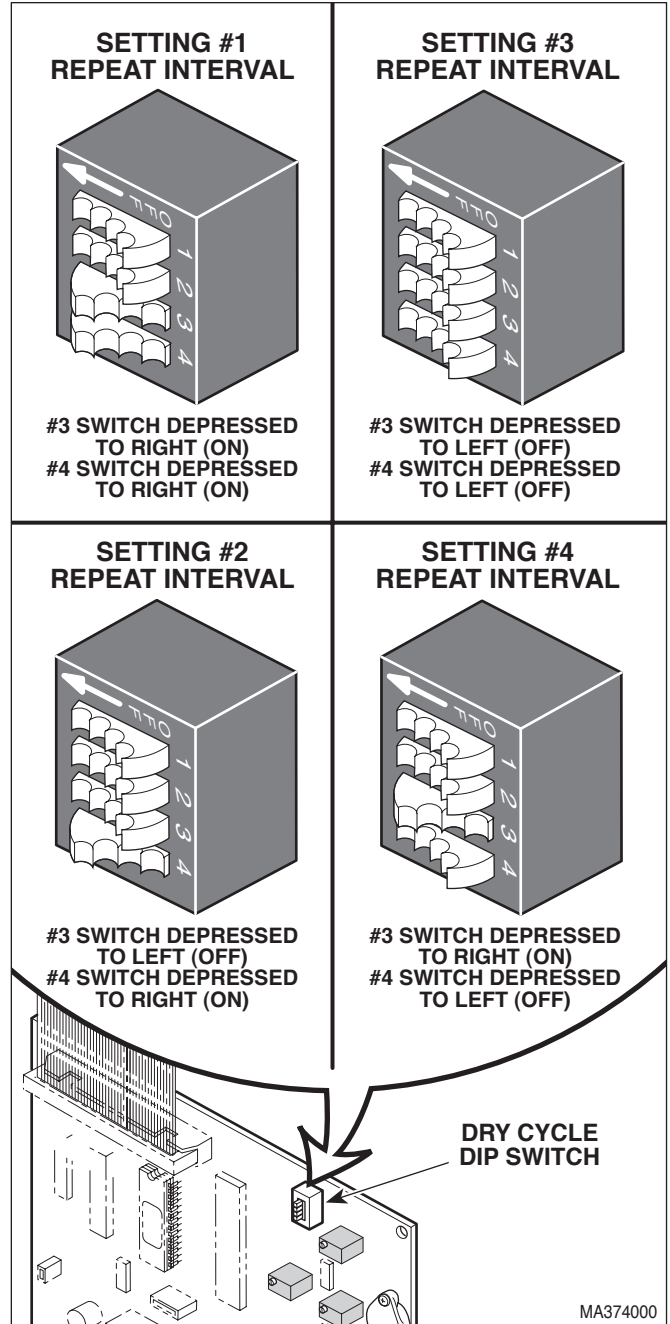

Figure 4-32. Dry Cycle Dip Switches Adjustment
- (3) If unit has been overheating during the drying cycle and activating the overheat thermostat, determine the current repeat interval dip switch settings for the unit per Figure 4-32 and then change the dip switch settings to the next shortest repeat interval.
- (4) Run a cycle. Repeat step 3 if overheat thermostat activates again.
- (5) Install right hand side panel (Refer to para 4.3).